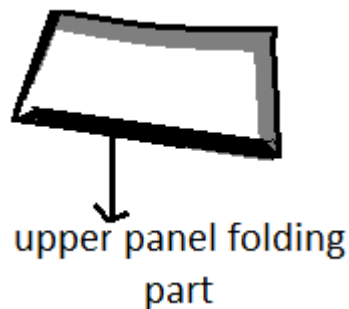

Fig. 5:4 upper panel fold
3. Stitch as shown in (*fig. 5:5 II.*)